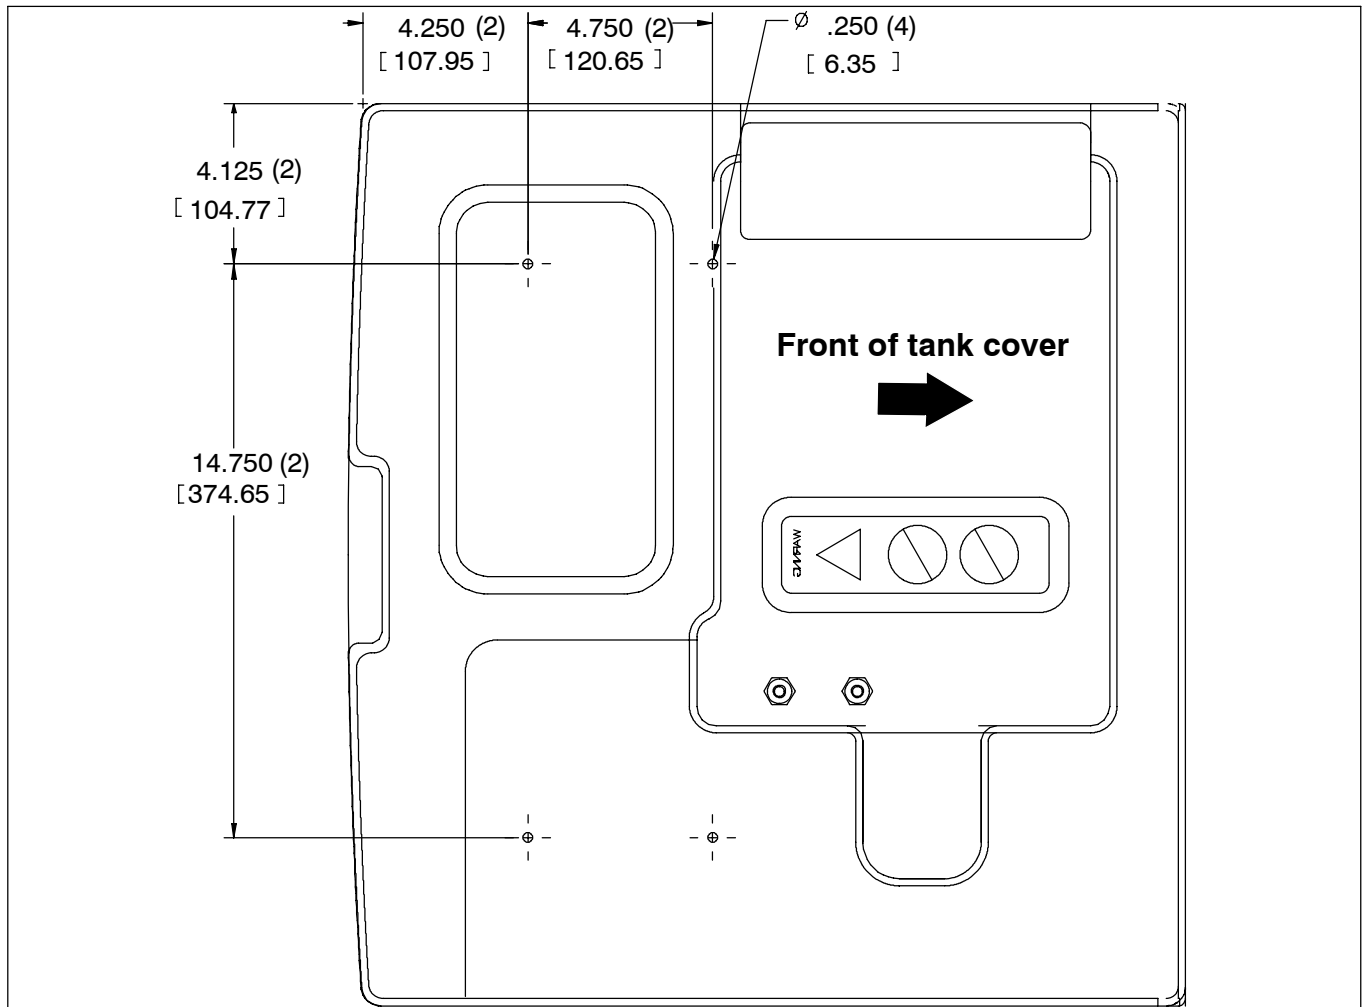

FIG. 2 - Hose Bag Mounting Hole Dimensions
6. Use the dimensions in FIG. 2 to mark and drill the power wand bag (6) mount holes in the top of the tank cover. (Refer to FIG. 2)